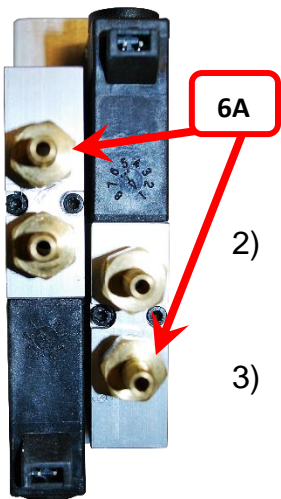

FIGURE 6
- 2) Remove the hose from the control valve solenoid of the leaking circuit connected to the fitting with the check valve, ports 6A in **FIGURE 6**; disconnect the hose from the valve of the circuit to be tested.
Using an additional piece of hose, attach the gauge end of the ball valve to the bottom fitting (furthest from black coil) of the control valve. Reference **FIGURE 6**.